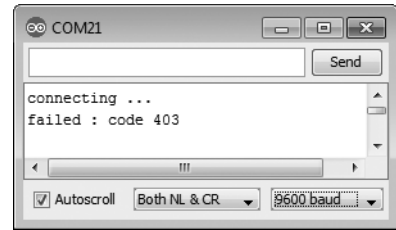

Figure 19-5: Results of tweeting too quickly
When you're creating your Arduino tweeter, keep in mind that you can send no more than one tweet per minute and that each message must be unique. (These are Twitter's rules.) When sending tweets, Twitter also replies with a status code. The sketch will receive and display this in the Serial Monitor using the code at ❸, an example of which is shown in Figure 19-5. If you receive a "403" message like this, either your token is incorrect or you're sending tweets too quickly. (For a complete list of Twitter error codes, see <http://dev.twitter.com/docs/error-codes-responses/>.)